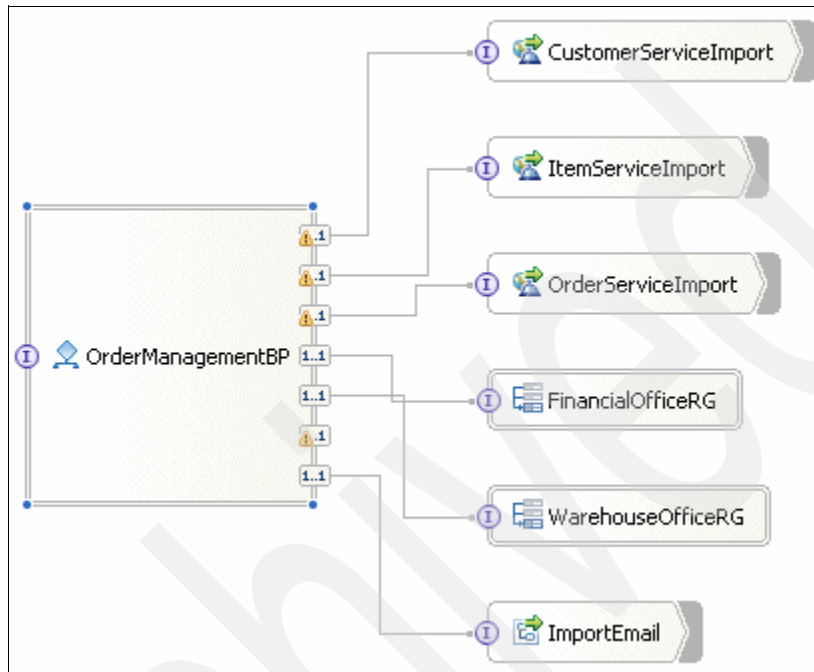

Figure 7-14 *OrderManagementBP* wired to customer, item, and order imports
7. Verify that the OrderManagement assembly diagram looks similar to Figure 7-14.